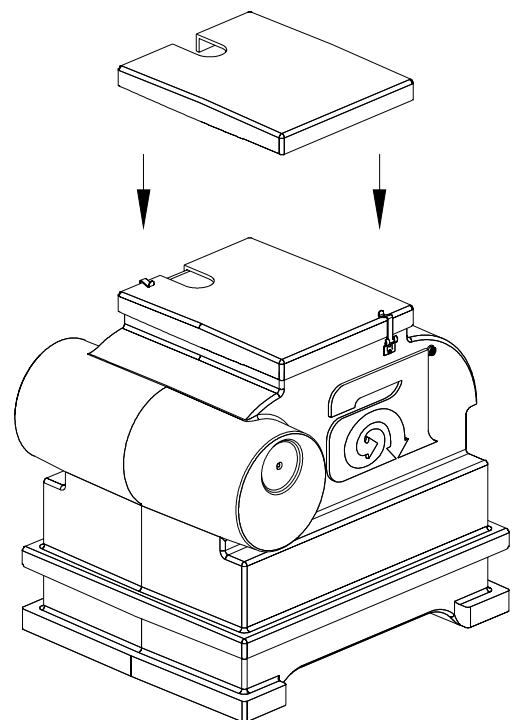

Figure 20G
- 7) Cut tank lid to fit around the $1\frac{1}{2}$ " water supply line connected to the pump. Make the cut to match the location of the pump. **See Figure 20G.**